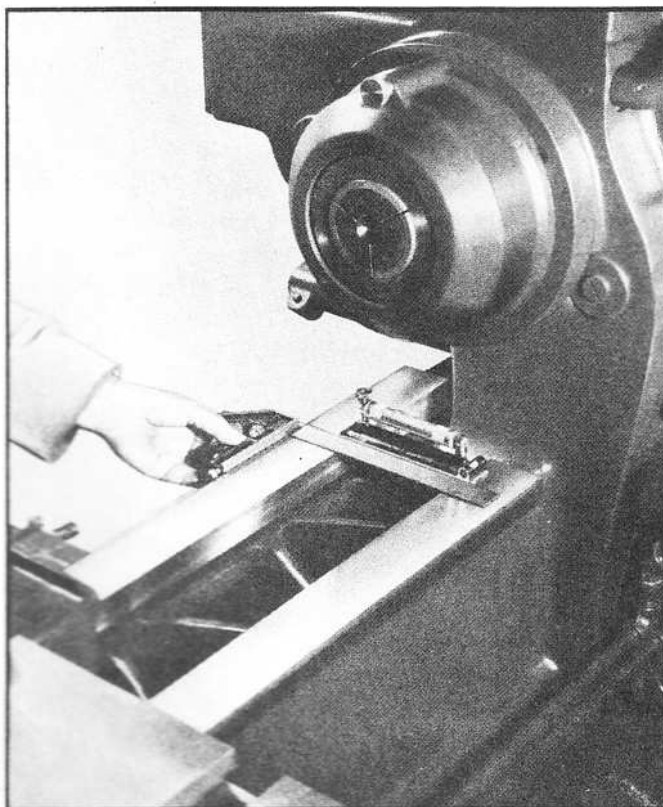

FIG. 10 Level at left hand end of Bedways near headstock
1. Place the sensitive spirit level across the bed at right angles to the center line near the headstock as in Fig. 10. Use a combination square against the front of the bedway to make certain that the sensitive spirit level is at right angles to the bed. *This is very important* because any variation from square will result in an incorrect reading of the level. If level is too short, use a parallel underneath it. Adjust the level until the bubble is in the center, allowing at least one-half minute for the bubble to come to rest.